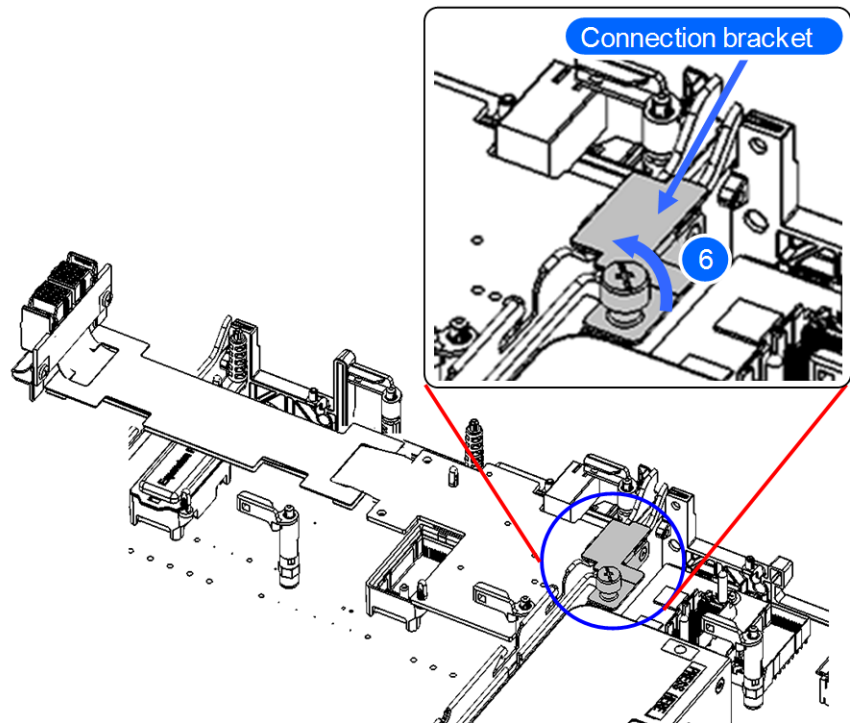

Figure 5-35 Removing the connection bracket
6. Loosen a thumbscrew of the connection bracket, and then remove the bracket. See Figure 5-35 Removing the connection bracket on page 5-31.